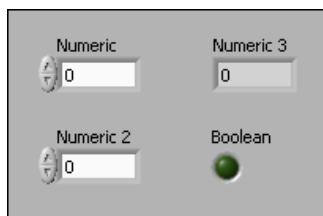

Figure 8. Creating the Front Panel
1. Add the following controls to the front panel window as shown in Figure 8: